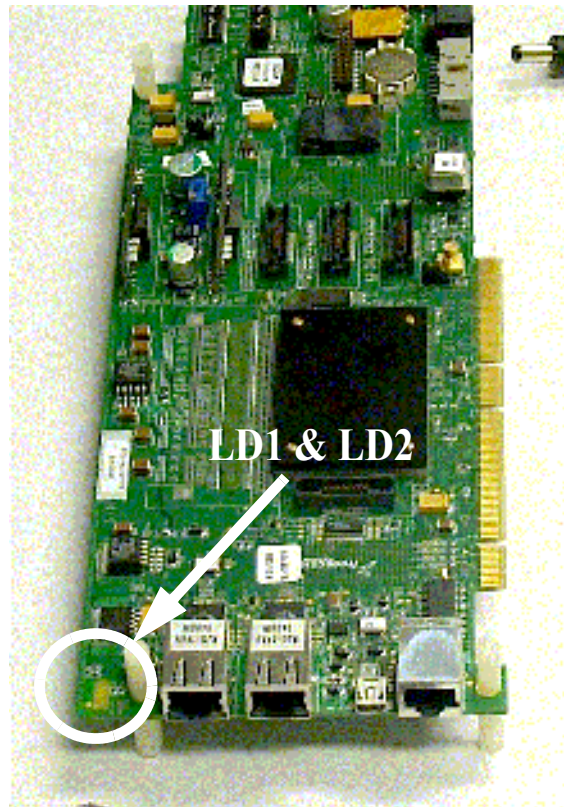

Figure 2-3 Boot-Up sequence: LD1 and LD2 (turn on, then off)
4. Verify that LD1 and LD2 turn on and turn off (see Figure 2-3 for location). They should be on for only a few moments. This indicates that the board has successfully completed the boot-up sequence. (
4. Verify that LD1 and LD2 turn on and then turn off (see Figure 2-3 for location). They should be on for only a few moments. This indicates that the board has successfully undergone the boot-up sequence.